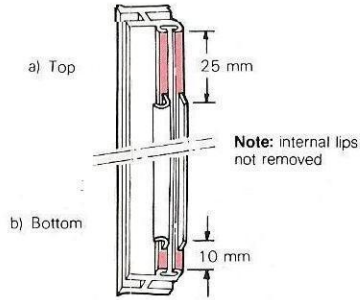

Figure 8
- b) Decide which end of Section D1 will be at the top of the window, and notch back the interlock at that end by 25mm. Notch back to the internal lips, but do not remove them (Figure 8).
- c) Remove a 10mm notch from the bottom end of the interlock of Section D1 (Figure 8).